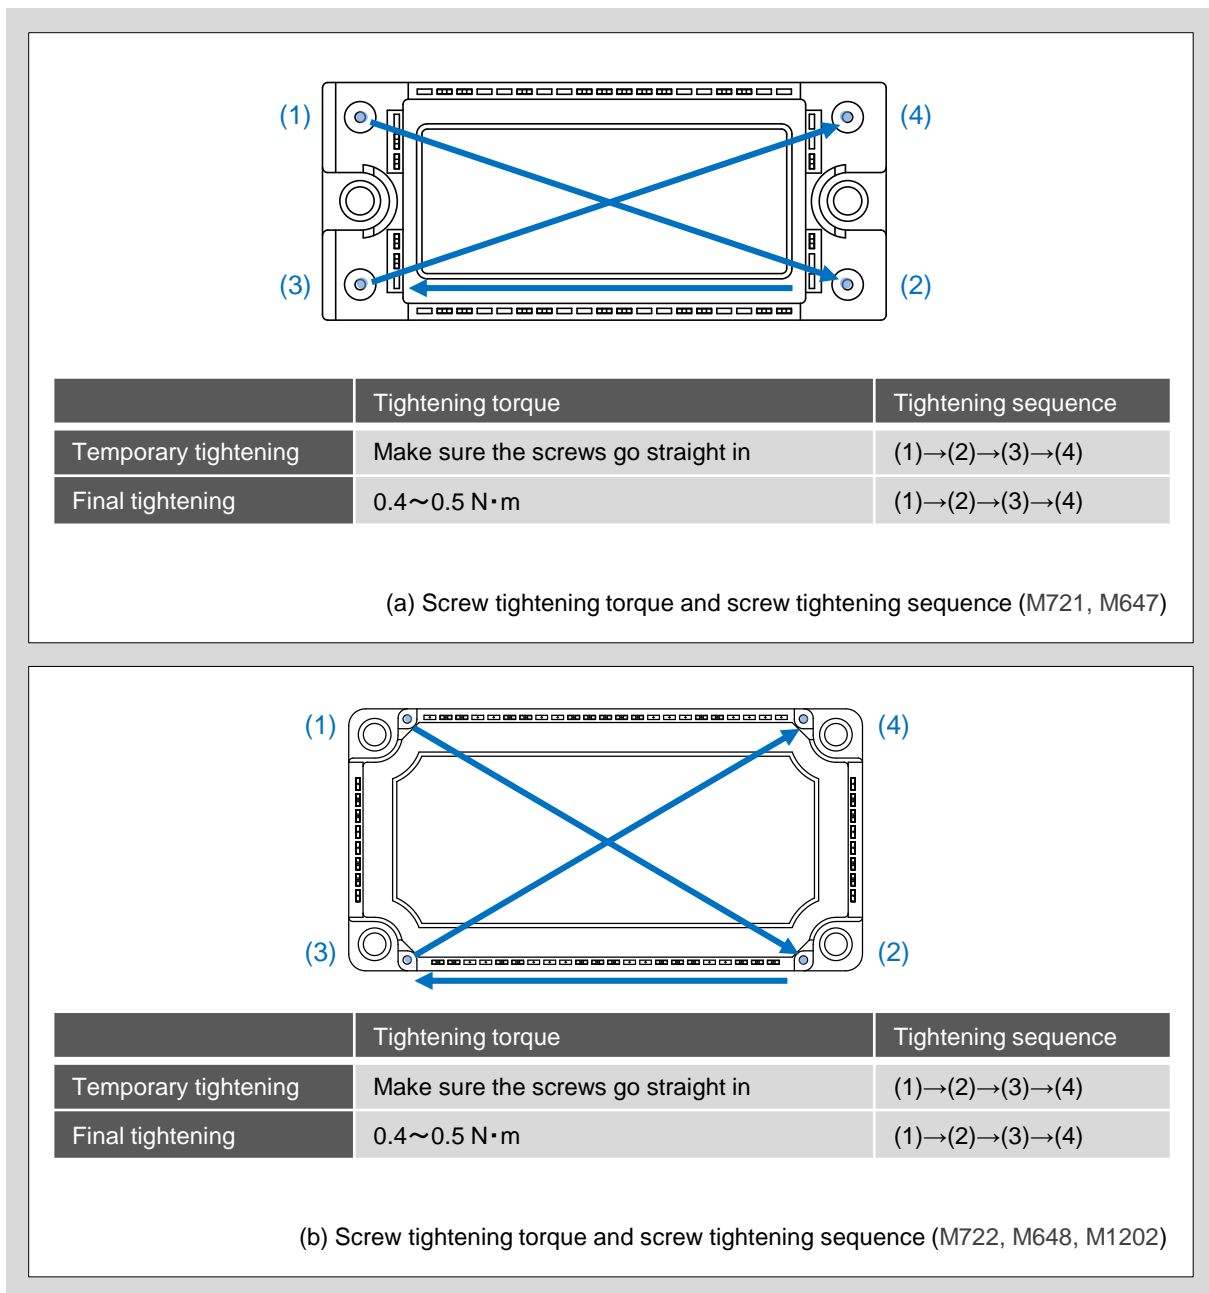

Fig.8 Screw tightening torque and screw tightening sequence
2. To fix the module with even force, first perform temporary tightening. Fig.8 shows the tightening torque and sequence.
3. Perform final tightening in the same sequence as temporary tightening. The final tightening torque should be within the range shown in Fig.8.